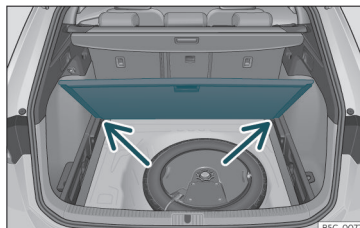

Fig. 114 Variable luggage compartment floor: inclined position.
- Rest the floor on its housings »» **Fig. 114** (arrows).